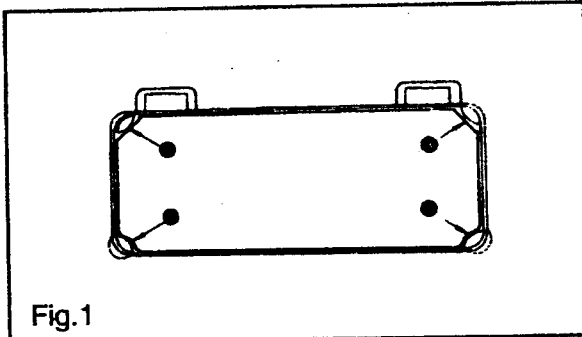
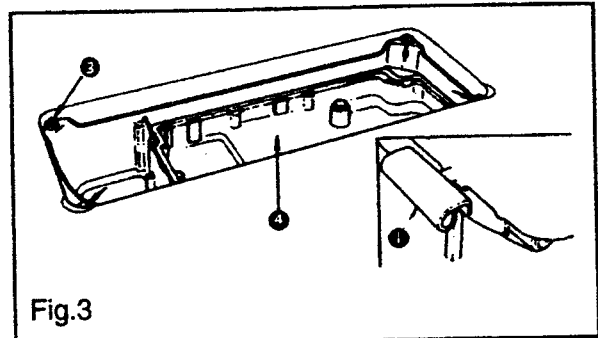
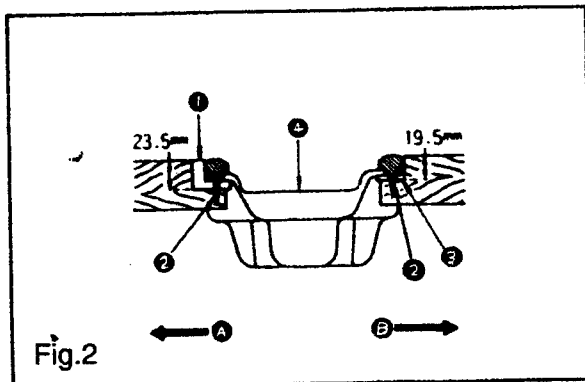
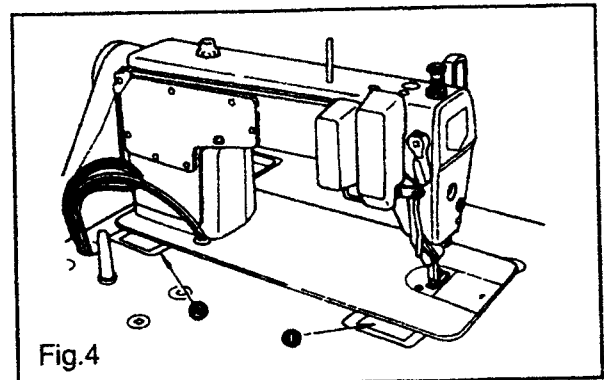

Fig.1
Fig.3
Fig.2
Fig.4
4. INSTALLATION (Fig.1, Fig.2, Fig.3, Fig.4)
- 2) Fix two rubber seats ① on side A (operator's side) using nails ② as illustrated above. Fix two cushion seats ③ on side B (hinged side) using nails ④. Then place oil pan ⑤ on the fixed seats. (Fig.1, Fig.2)
- 3) Fit hinge ⑥ into the opening in the machine bed, and fit the machine head to table rubber hinge ⑦ before placing the machine head on cushions ③ on the four corners. (Fig.3, Fig.4)